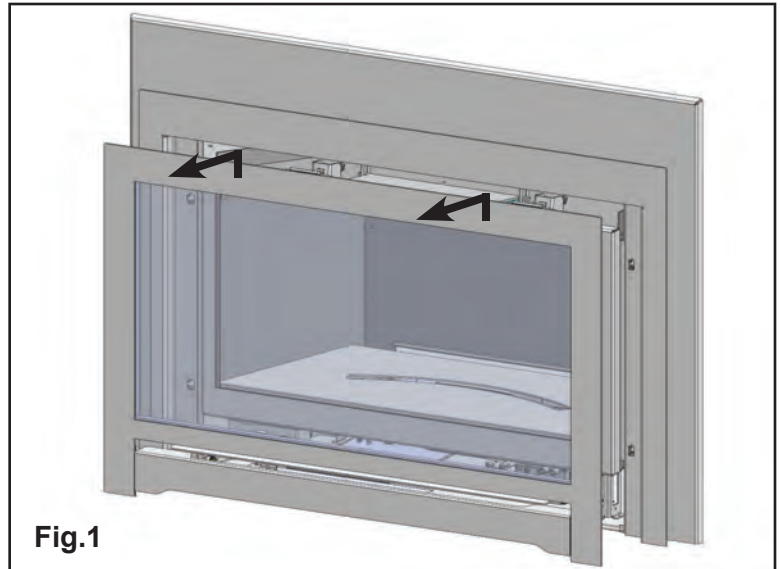

Fig.1
2. The safety screen trim fits into tabs on the appliance. Lift the safety screen trim up and out, away from the appliance, and set it aside. (Fig.1)